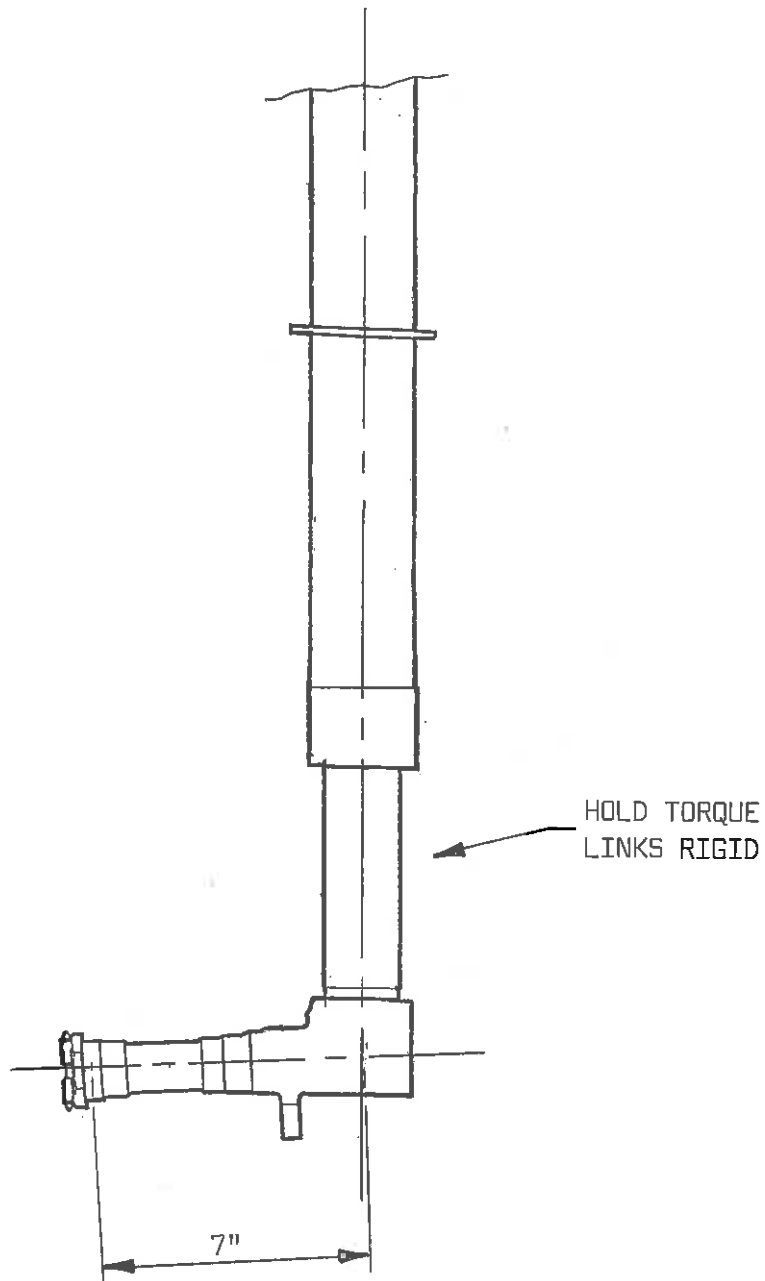

Fig 1
**Issue 2 adds note to Para 1 and Fig 1 to hold torque links rigid.**
2. Measure 7 ins along the stub axle from the centreline of the plunger tube. See Figure 1.